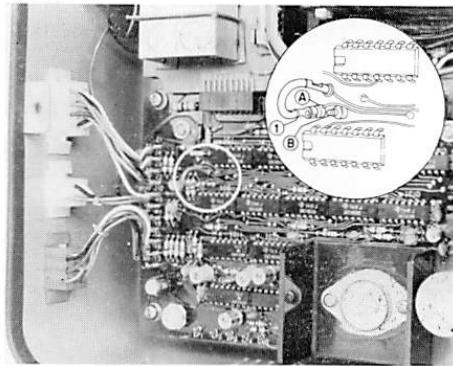

Fig. 14
8. When low speed sewing is not necessary (Fig.14)
- ① Cut off the power source.
- ② Open the cover of the control box.
- ③ Pull out the inserted ① of the figure from the pin ④ and insert it into the pin ⑤.